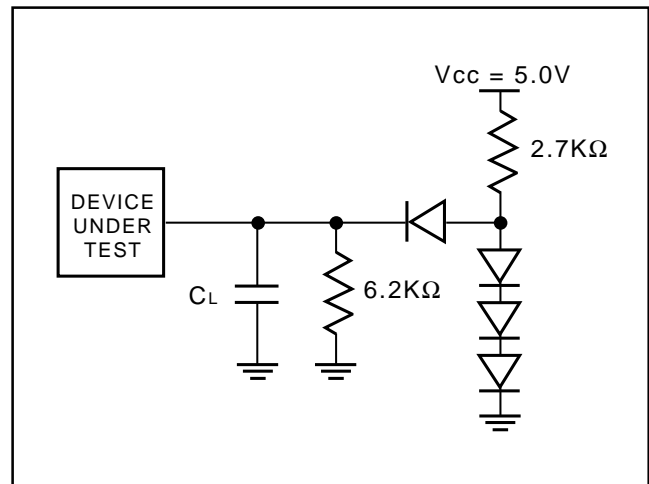

Figure 12. Test Setup
5. See Figure 12 and Table 6 for test specifications.